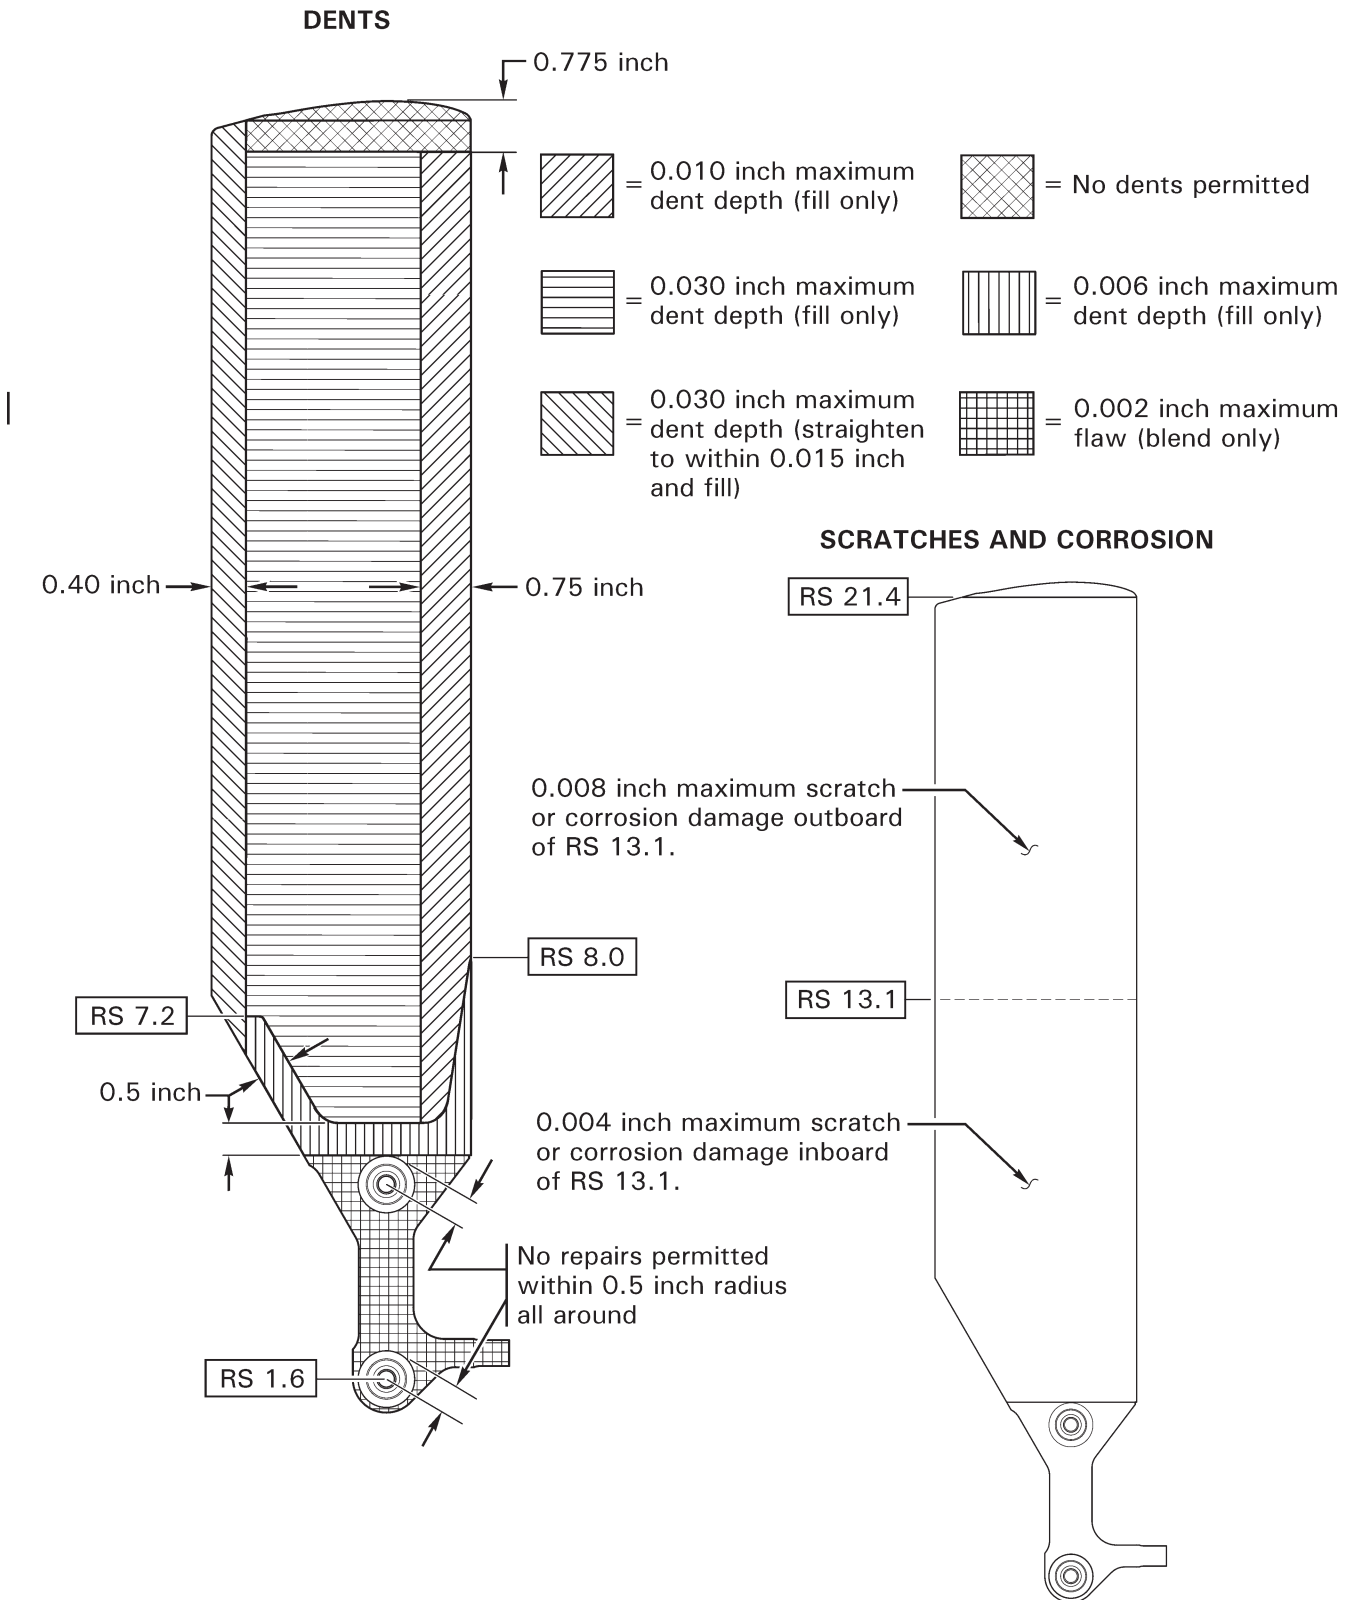

FIGURE 28-4 TAIL ROTOR BLADE INSPECTION CRITERIA
1. Refer to Figure 28-4. Measure damage in blade skins per § 26-40; verify damage does not exceed the following limits:
2. Refer to Figure 28-4. Smooth, round bottom dents with 0.060 inch minimum radius may be repaired when damage does not exceed the following limits:
2. Refer to Figure 28-4. All damage must be repaired within the following limits: